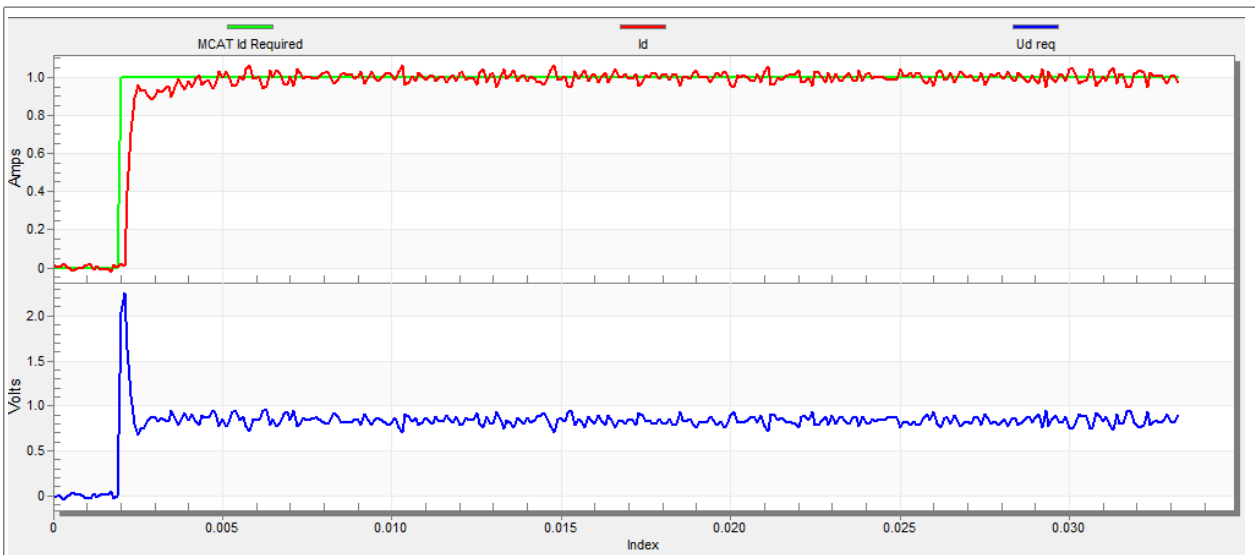

Figure 20. Optimal step response of the Id current controller
- The loop bandwidth (400 Hz) is optimal and the response time of the Id current is sufficient (see Figure 20).